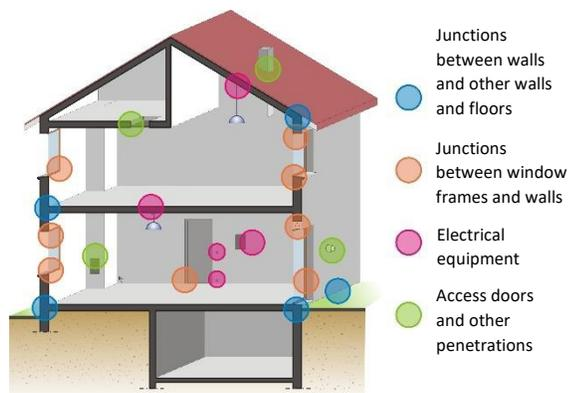

Fig. 42: Common leakage sites (Source: CEREMA – Pôle QERA)
- Identify most common leakages sites (Fig. 42)